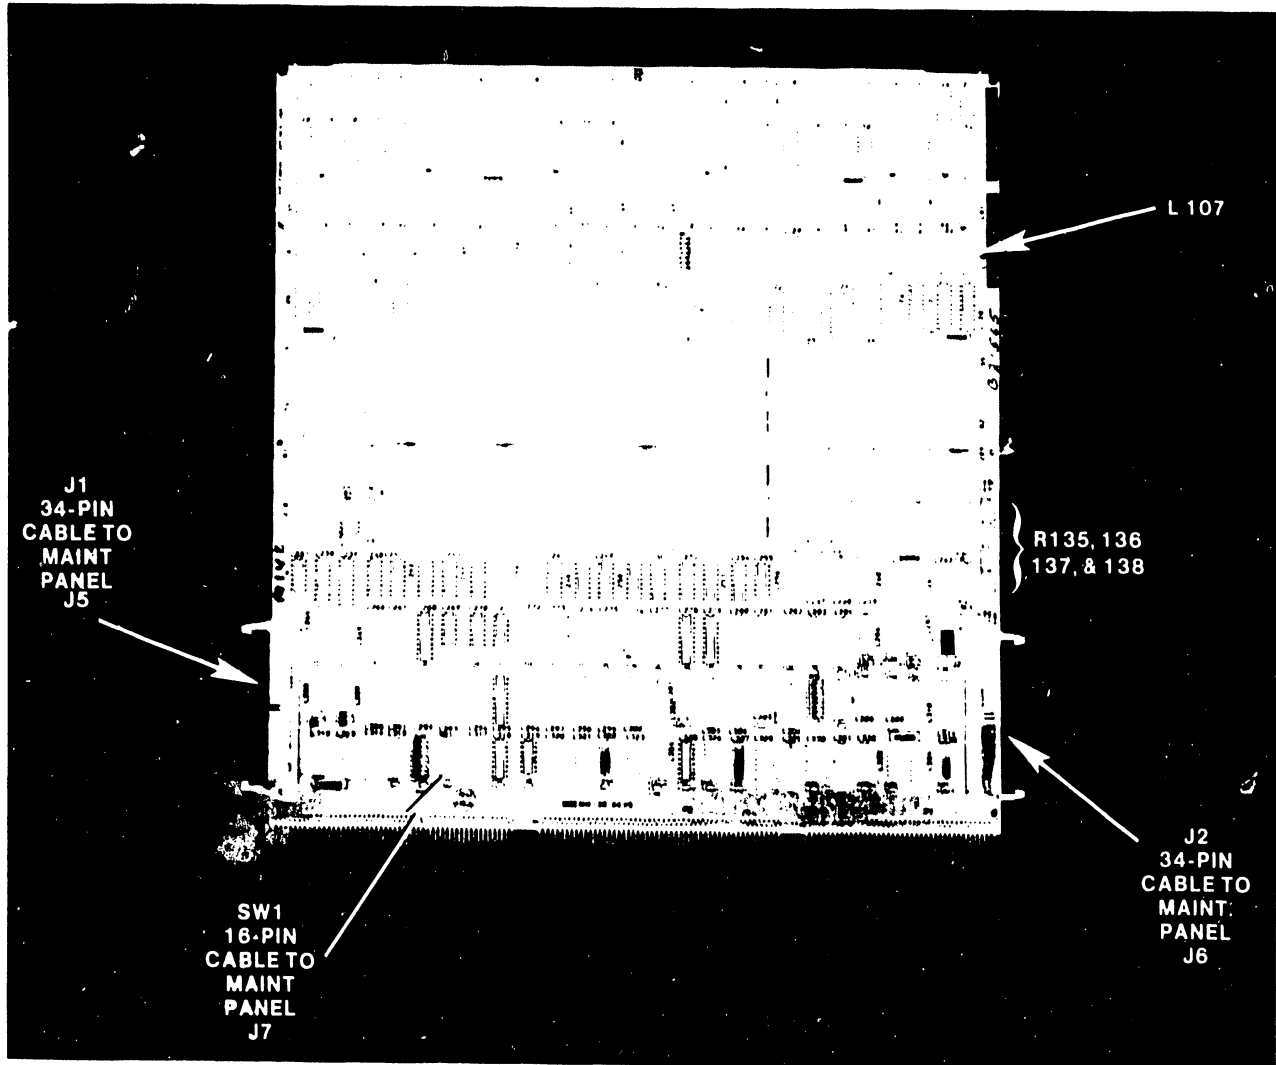

Figure 5-5A. 210-7602 VS-85 Control Memory Board
5. Disconnect the 60-pin connectors from J1 and J2 and the 16-pin ribbon cable from location SW1 of the Control Memory board (figures 5-5A and 5-5B).